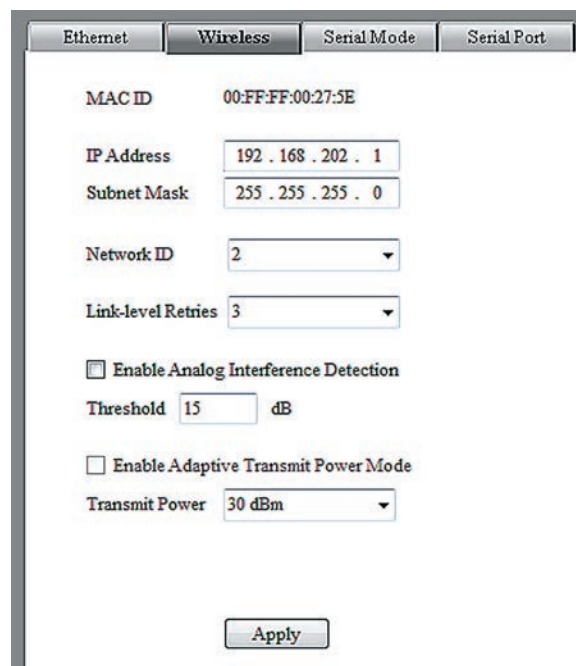

Figure 34. Wireless configuration dialog box.
STEP 12. The *Interfaces* screen will open. Click on the **Wireless** tab. See Figure 34.